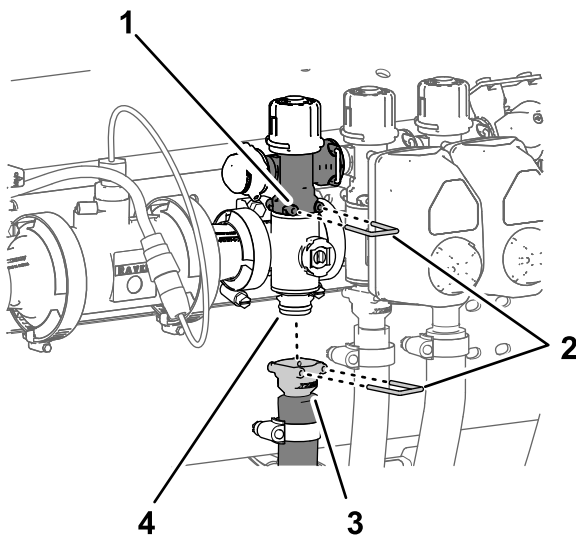

Figure 125
1. Remove the quick-connect pin that secures the quick-connect coupler for the section-bypass valve to the section-manifold valve (Figure 125).
- Remove the quick connect pin that secures the quick-connect coupler for the section supply hose to the manifold for the quick-connect fitting of the section-manifold valve (Figure 125).